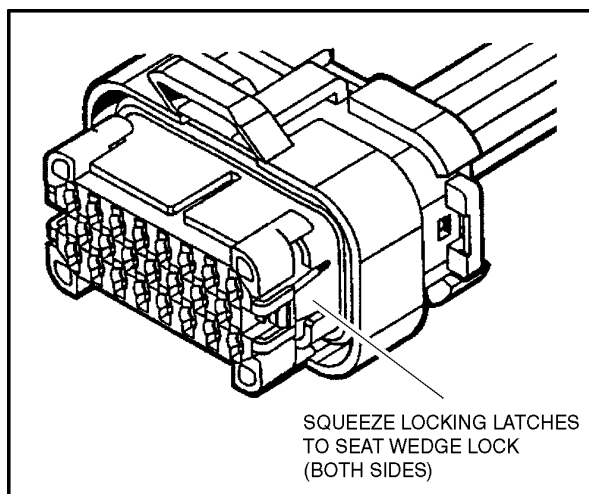

Figure 7-10. Connector Assembly Figure 3
3. After all required contacts have been inserted, the wedge lock must be closed to its locked position. Release the locking latches by squeezing them inward (See Figure 7-10.).